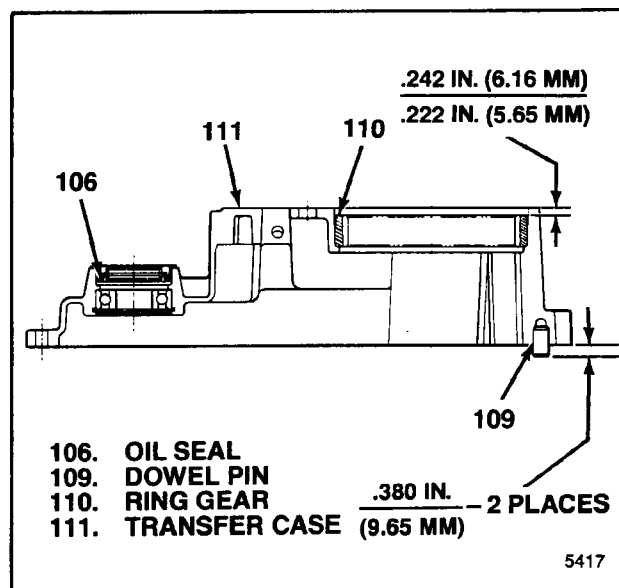

Figure 5-2. Installing Parts in Transfer Case
a. If ring gear (110) was removed for replacement, align serrations on OD of new ring gear with those in transfer case (111). Press in ring gear, chamfered end first, to dimension shown in figure 5-2. Make sure gear is not cocked and is firmly seated in case.
b. If removed, press two new dowel pins (109) into case to dimension shown in figure 5-2.
c. Press in ball bearing (108) to bottom in transfer case (111) and install retaining ring (107).
d. Position new oil seal (106) as shown in figure 5-2 and press in to seat seal flange against transfer case (111).